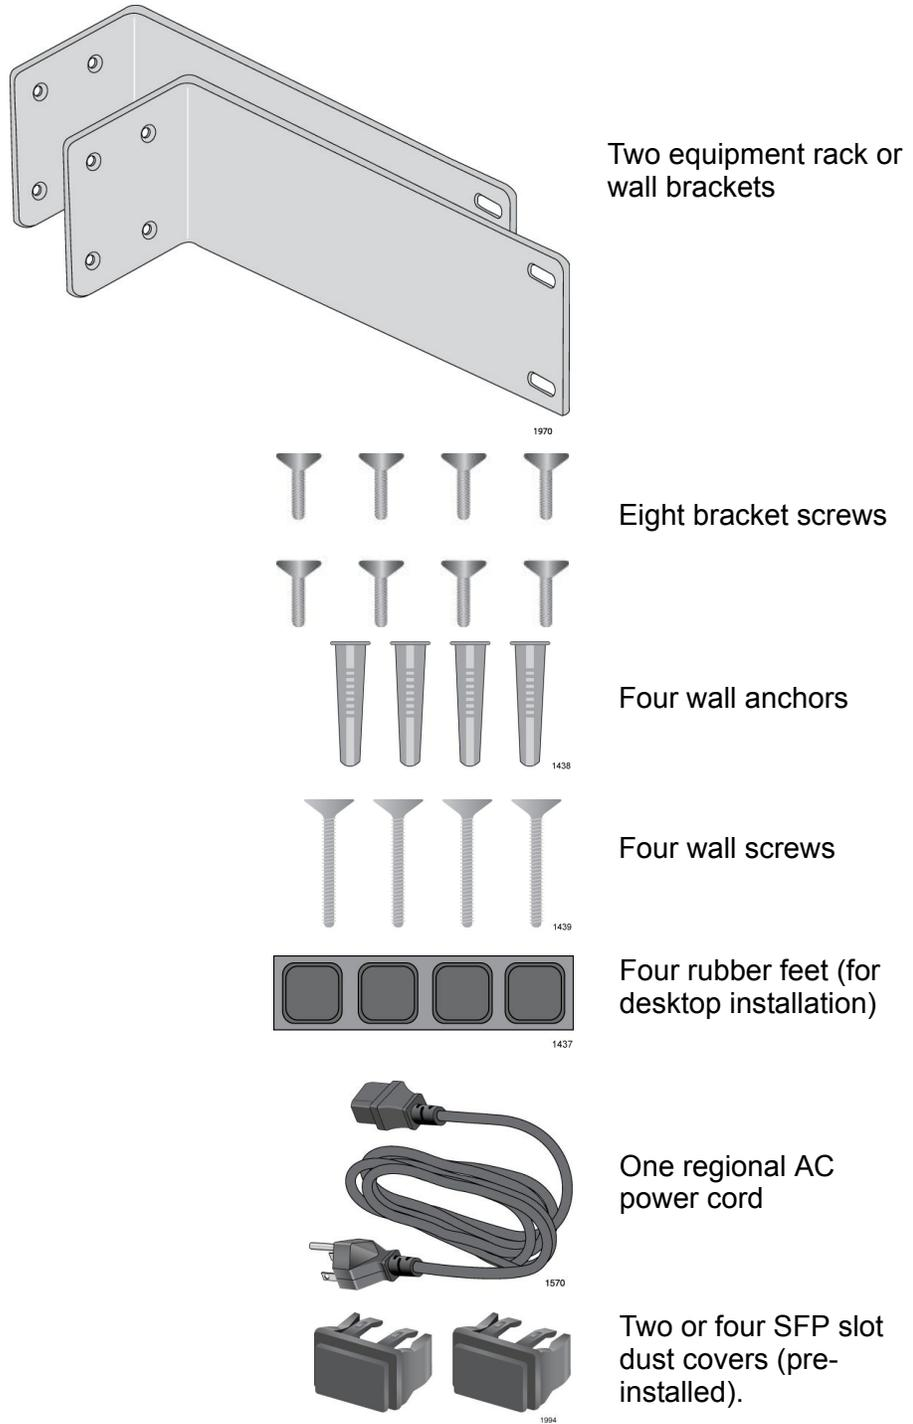

Figure 18. Shipping Package Contents
3. In addition to an AT-GS950/10PS, AT-GS950/16PS, or AT-GS950/48PS switch, verify that the shipping container includes the following items shown in Figure 18 on page 44.